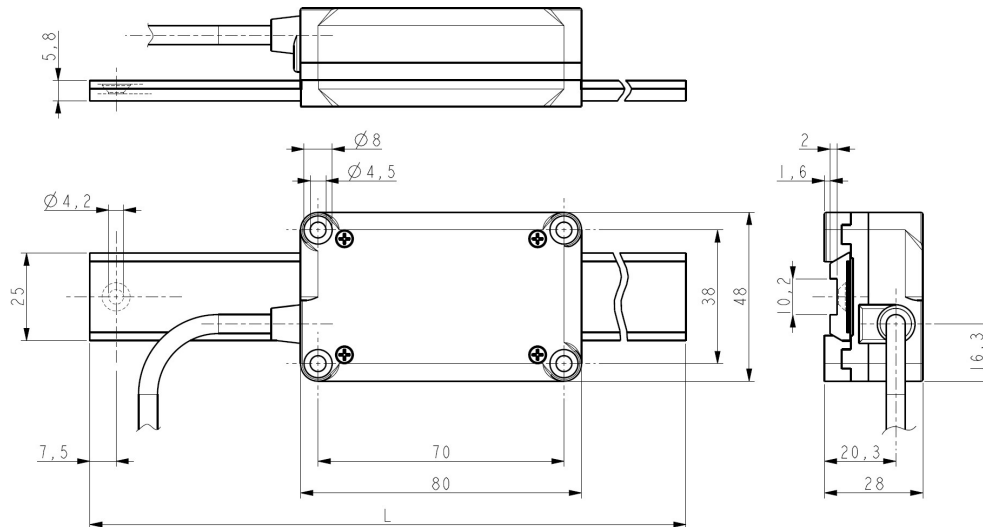

Figure 1
2.1 Overall dimensions (Figure 1)
Use **four TCEI M4 UNI 5931 type cylinder head screws** inserted from the top in the holes provided at the four angles of the enclosure. The screws must be 30 mm min. long (see Figure 1). **The maximum tightening torque is 1.2 Nm.** We suggest adding a few drops of threadlocker of medium bond strength.
2.5 Measuring length (Figure 1)
The **maximum tape length L** is between 195 mm / 7.677" and 650 mm / 25.59". As the sensor area has always to be fully within the limits of the tape magnetic surface, then the **maximum measuring length ML** is the maximum tape length minus the sensor length (see the Figure 1) = $L - 80 \text{ mm} / 3.149"$ (115 mm / 4.528" to 570 mm / 22.441").